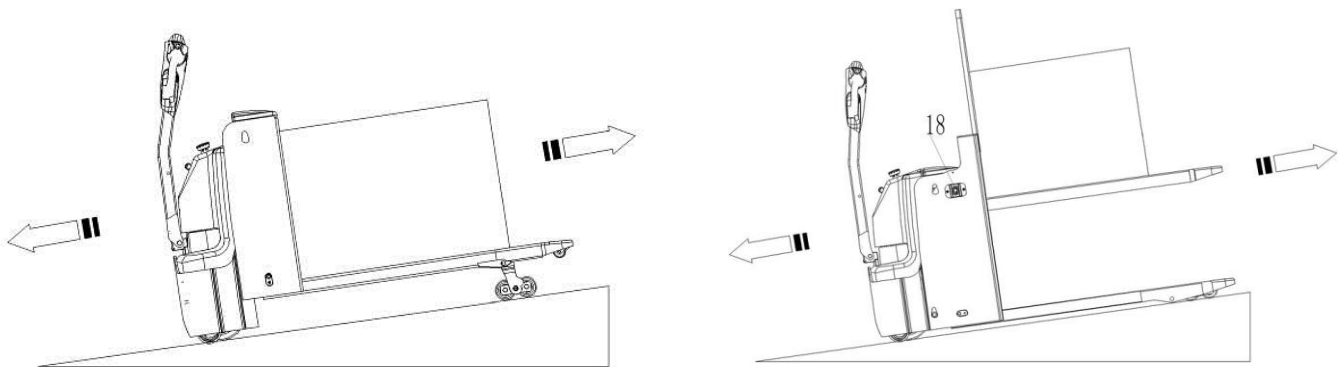

Fig. 13: Load facing uphill
Travel with the lowered forks fully underneath the pallet under the load and press the lifting button (15) until you reached the desired lifting height. For trucks with additional mast- lift, lift the forks by pressing the mast-lifting button(18) Fig.13. For trucks with double lift function ensure, the capacity of each lift-function is in the limits of the load diagram.
TRAVEL ON INCLINES ONLY WITH THE LOAD FACING UPHILL(fig.13).